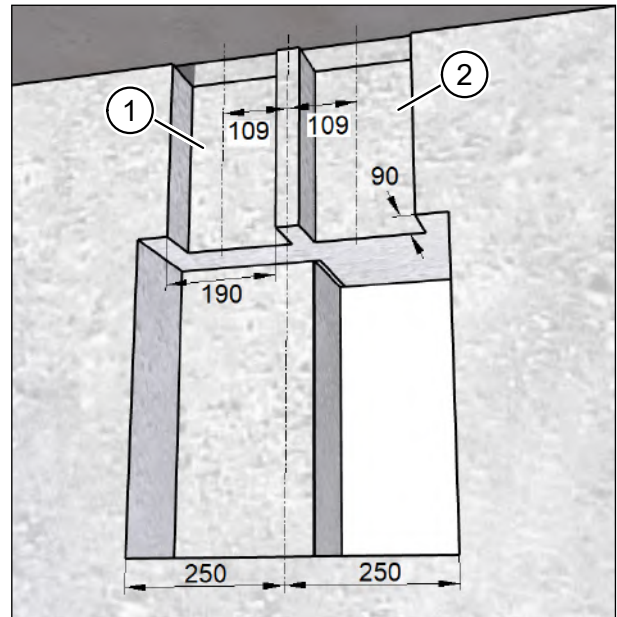

Fig. 12: Chasing out channels for flexible pipe connections, dimensions in millimetres
- ▶ Use the wall chaser to chase out **one** channel 190 mm wide and 90 mm deep as far as the flexible pipe outlet in the ceiling (see Fig. 12) for either the extract air pipe (item 1 in Fig. 12) **or** the supply air pipe (item 2 in Fig. 12).
- ▶ Use the wall chaser to chase out **two** channels 190 mm wide and 90 mm deep as far as the flexible pipe outlet in the ceiling (see Fig. 12) for the extract air pipe (item 1 in Fig. 12) **and** the supply air pipe (item 2 in Fig. 12).